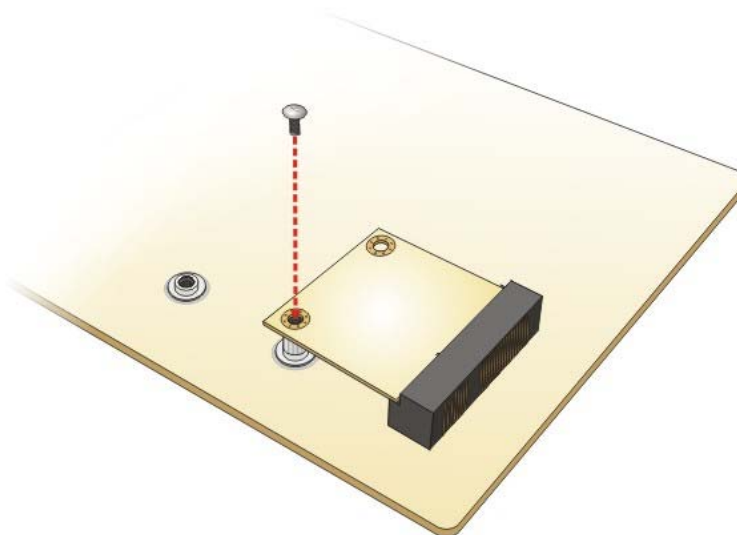

Figure 4-14: Securing the Half-size PCIe Mini Card
Step 6: Secure the half-size PCIe Mini card. Secure the half-size PCIe Mini card with the retention screw previously removed (Figure 4-14).